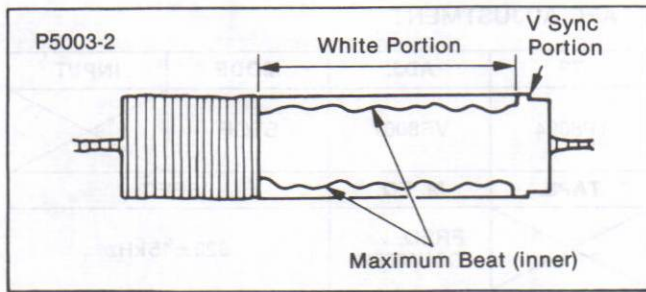
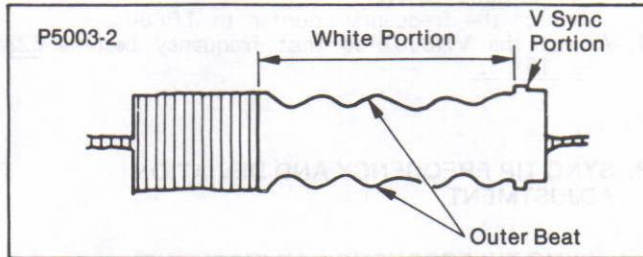

Fig.E5
Fig.E6
4. Adjust VR3009 so that inner beat at White portion of colour bar becomes maximum as shown in Fig. E5, Fig. E6.
3. Adjust VR3006, VR3007 so that the level of waveform is shown in Fig. E5.